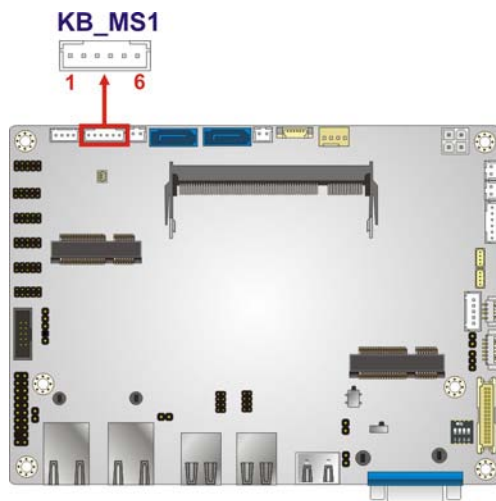

Figure 3-12: Keyboard and Mouse Location
- CN Location: See **Figure 3-12**